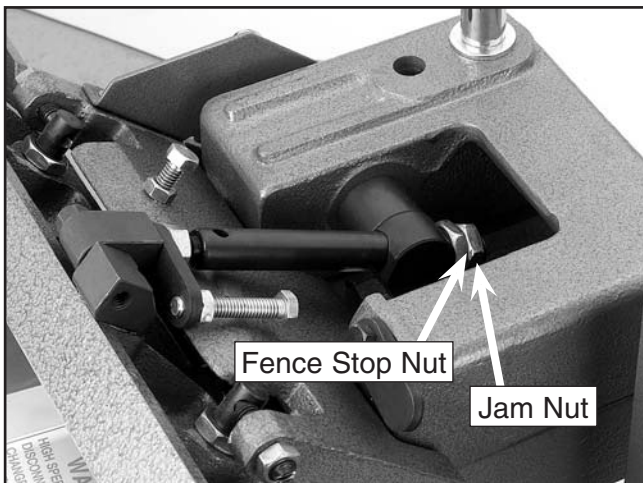

Figure 49. 45° inward fence stop jam nut.
2. Loosen the jam nut shown in **Figure 49**.